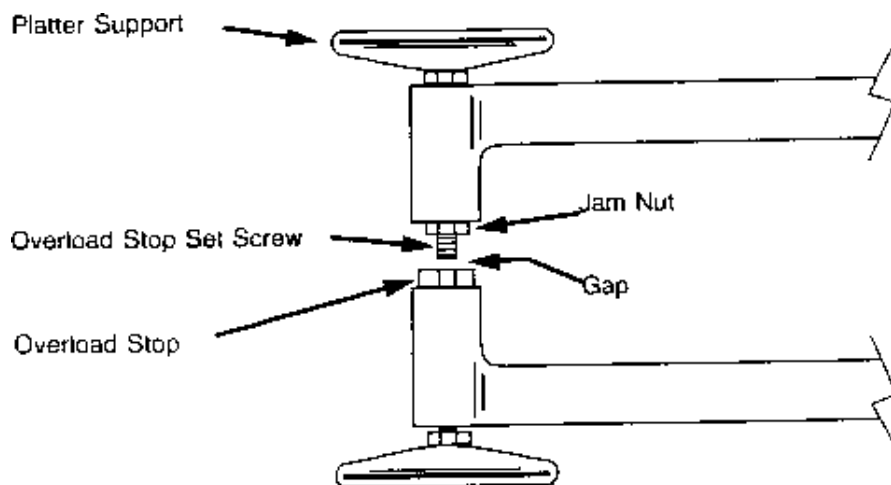
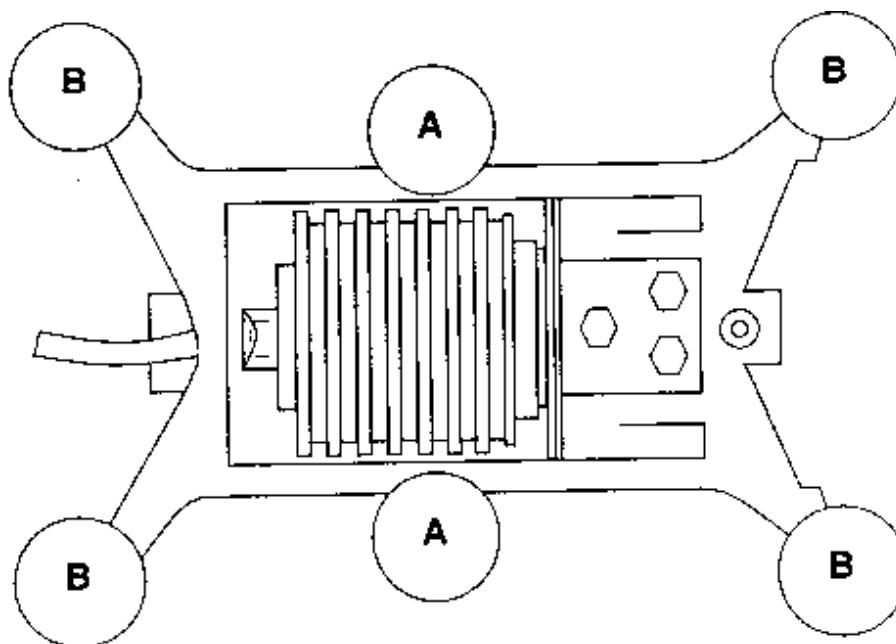

Figure 5.1 Overload Stop Part
Figure 5.2 Overload Stop Locations
The overload stop gaps must be checked and reset if the top or bottom frame, and load cell is replaced. To set the gaps, insert the proper size gap gauge between the screw and post, (Refer to Figure 5.1) then turn the screw until the proper gap is measured. Refer to Figure 5.2 for the location of the overload stops and Table 2 for the gap settings per Factory Number.
Table 2 Overload Gap Specifications for Figure 5.2
5.3.5 To properly align the top and bottom frames, center the overload set screws at the corners above their respective overload stops. Refer to Figure 5.1.